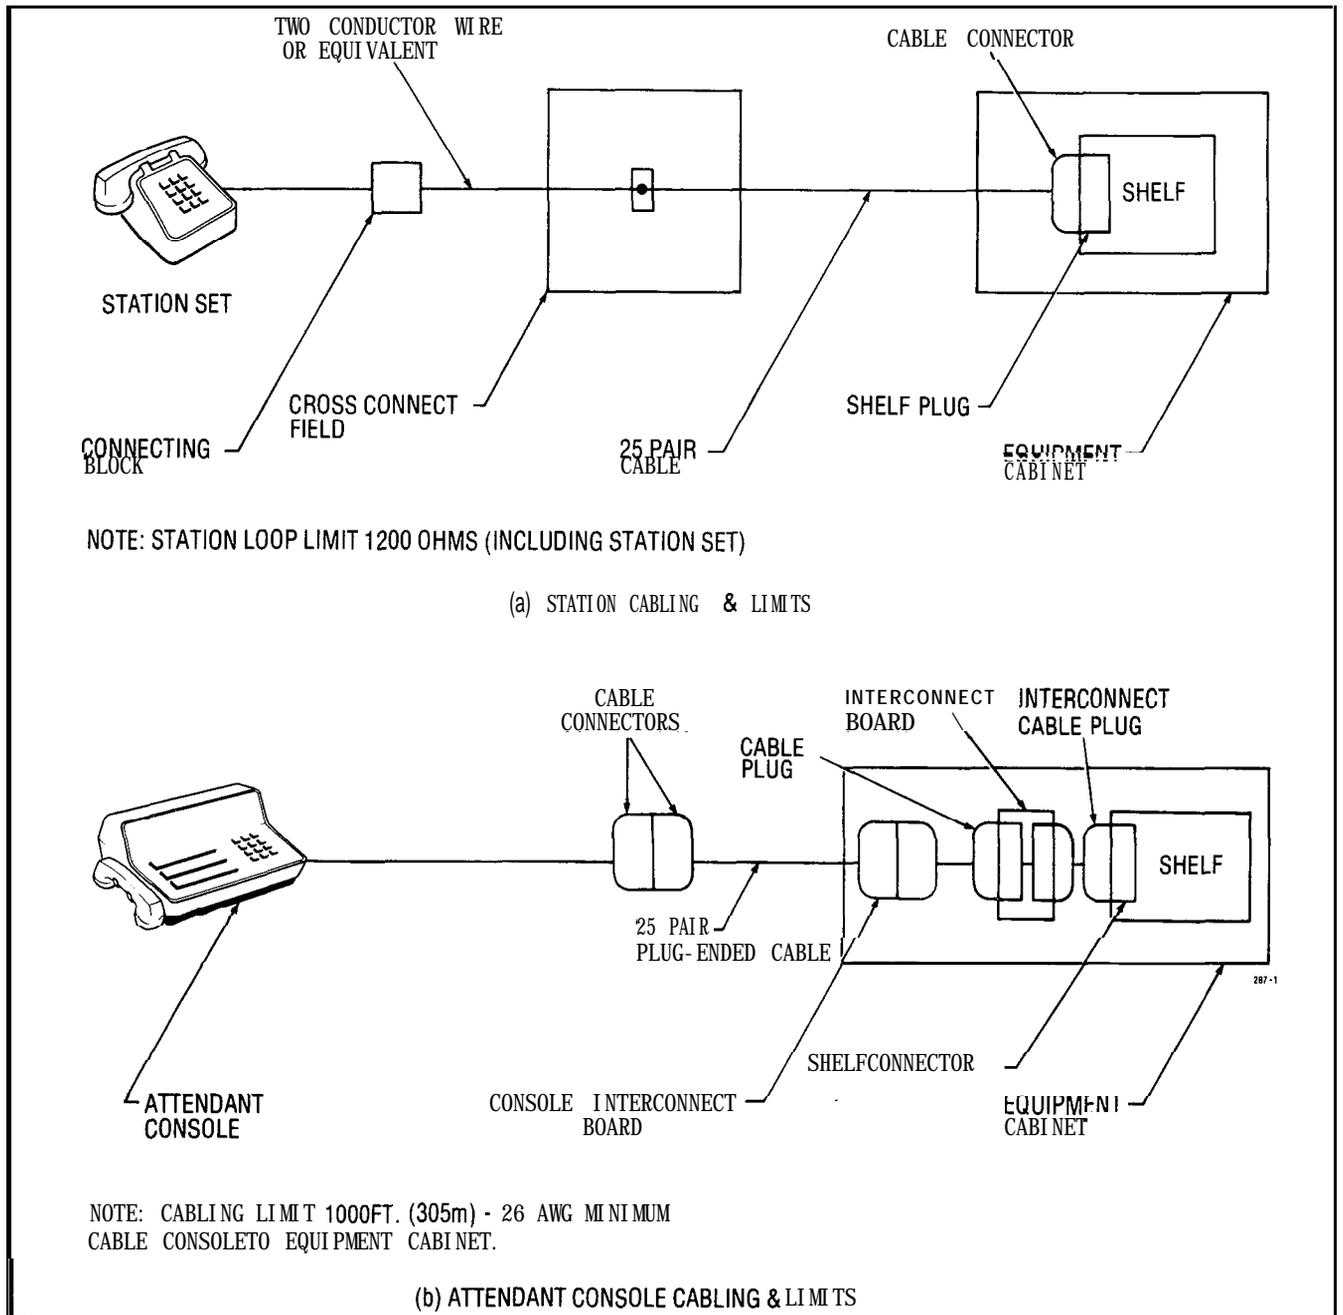

Fig. 10-1 Station and Console Cabling Requirements
10.02 Telephone set and trunk cabling terminates on the building cross-connect terminal in the normal manner. The cabling requirements and limits for stations and consoles are shown in Fig. 10-1(a) and (b).